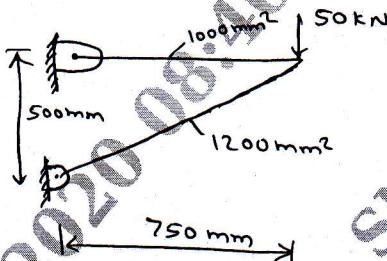

Fig.Q4
- 4 For 2 bar truss shown in Fig.Q4 determine the nodal displacements and the stress in each member. Take $E = 200 \text{ GPa}$.